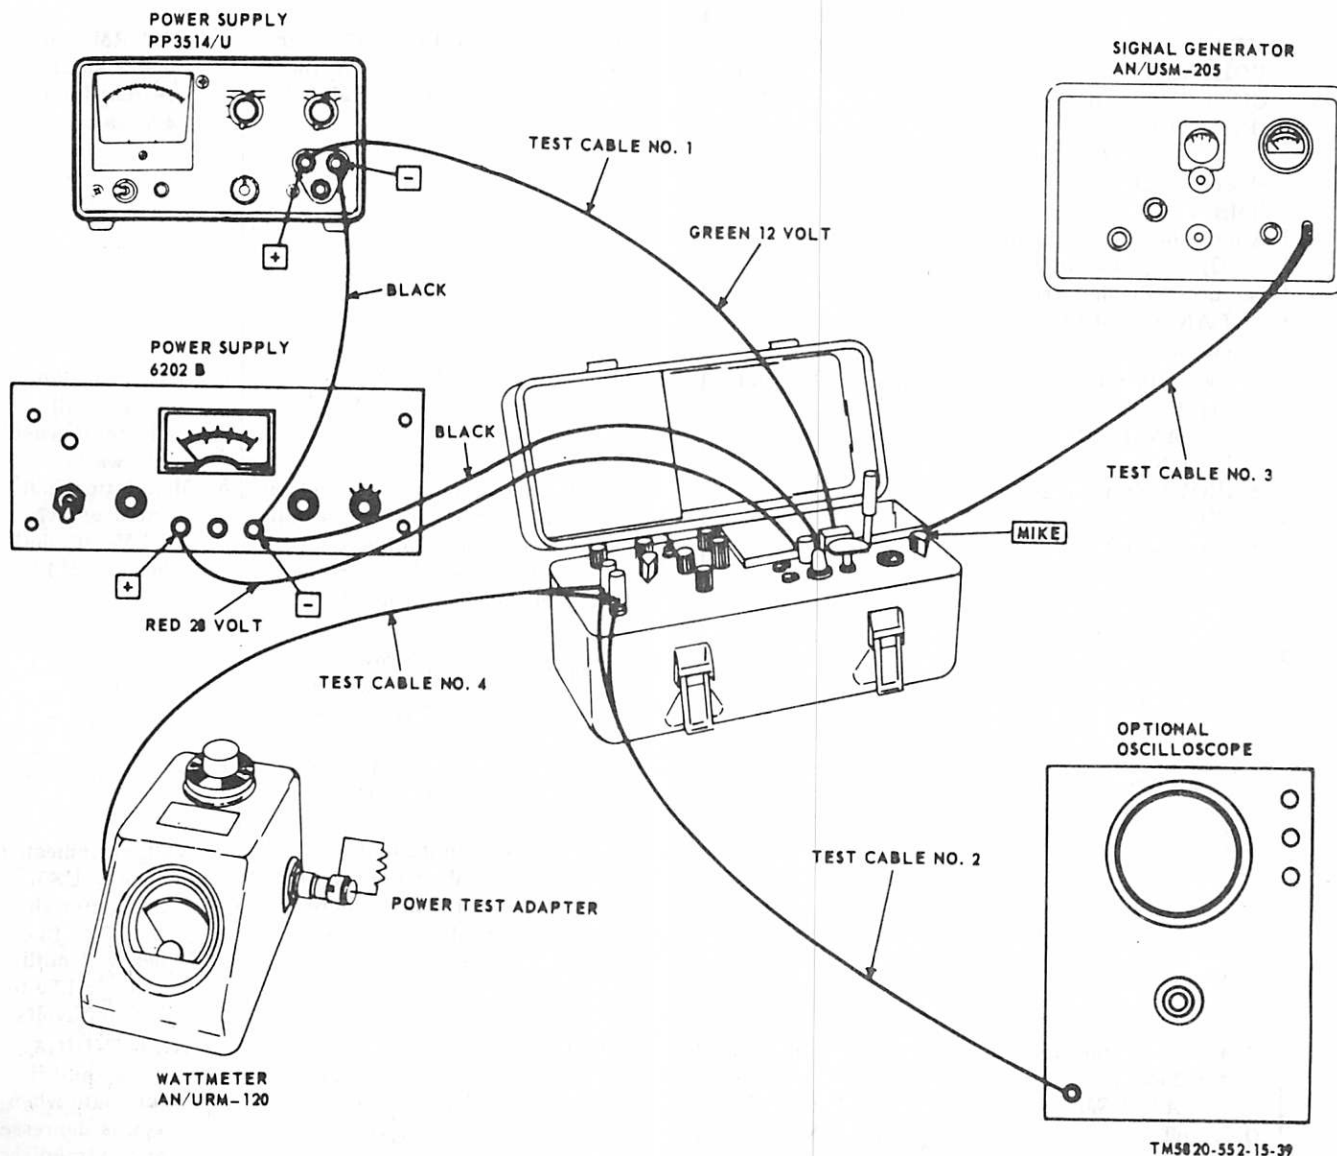

Figure 7-24. Transmitter tests.
- (1) Remove battery from AN/PRC-64A.
- (2) Install coupler CU-753/URM-120 with arrow pointing toward power test adapter.
- (3) Be sure at least one transmitter crystal has been installed and aligned in transmitter section of AN PRC-64A.
(4) Connect equipment as shown in figure 7-24.